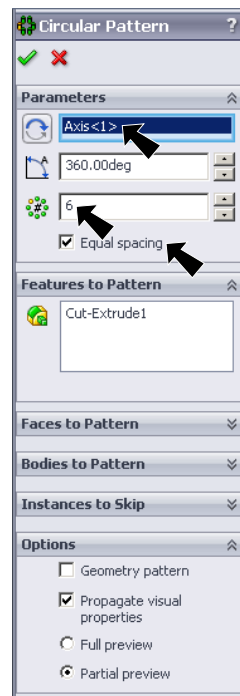

Fig. 20
**Number of Instances**  6, Fig. 20
check **Equal spacing**, Fig. 20